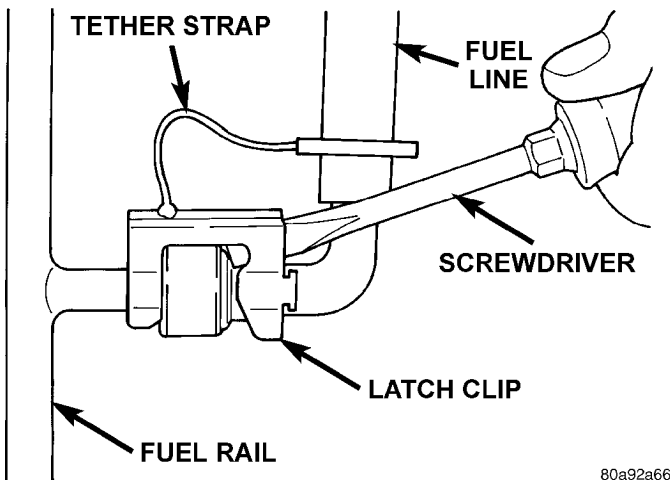
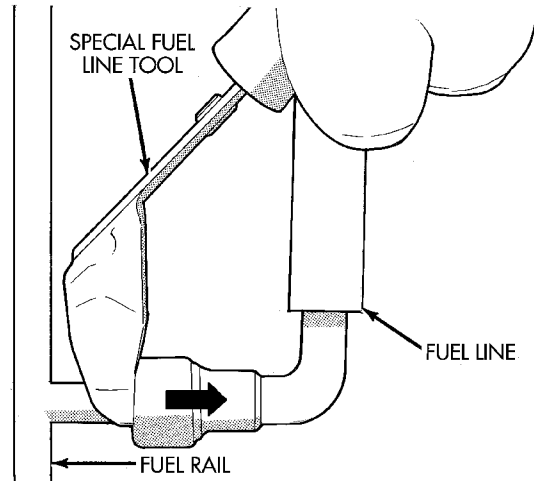

Fig. 20 Latch Clip Removal
Fig. 21 Fuel Line Disconnection
A tethered latch clip (Fig. 20) is used to secure the fuel line to the fuel rail. A special tool will be necessary to separate fuel line from fuel rail after latch clip is removed. This same latch clip may also be used to secure other different fuel system components.
(1) Perform fuel pressure release procedure. Refer to Fuel Pressure Release Procedure in this group.
(2) Disconnect negative battery cable from battery.
(3) Clean fitting of any foreign material before disassembly.
(4) Pry up on latch clip with a screwdriver (Fig. 20).
(5) Slide latch clip toward fuel rail while lifting with screwdriver.
(6) Insert special fuel line removal tool (Snap-On number FIH 9055-1 or equivalent) into fuel line (Fig. 21). Use this tool to release locking fingers in end of line.